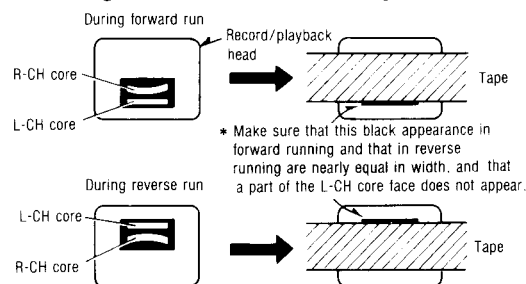

Fig. 5
4. Install a test tape (tape with mirror: QZZCRD) on the recorder; place the recorder in the FORWARD PLAY mode. Make fine adjustments of the erase head height and tape guide height adjustment screws as necessary, to attain on the recording/reproducing head face the tape position shown in Fig. 5.
5. Run the tape in the forward play mode and check it for zigzag running. (Shown in Fig. 5) If zigzag tape running occurs, repeat step 4.
7. Repeat steps 5 and 6 two or three times and verify that the tape position shown in Fig. 5 is ensured.